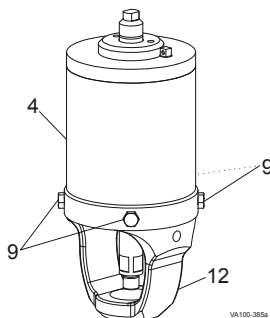

Figure 36: Remove Yoke
1. Remove the cap screws (Figure 36, item 9) and pull the yoke (item 12) from the actuator cylinder (item 4).